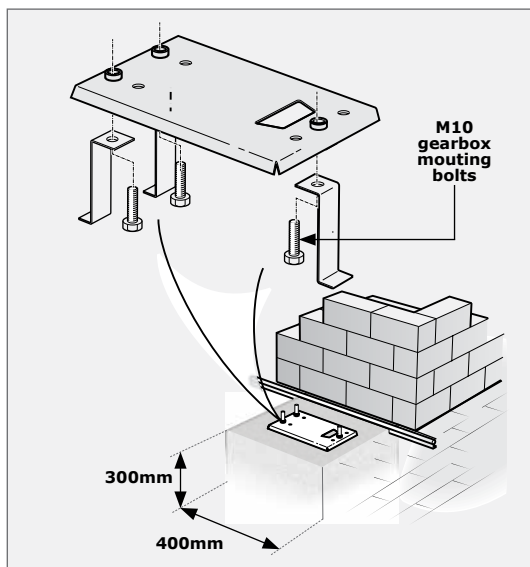
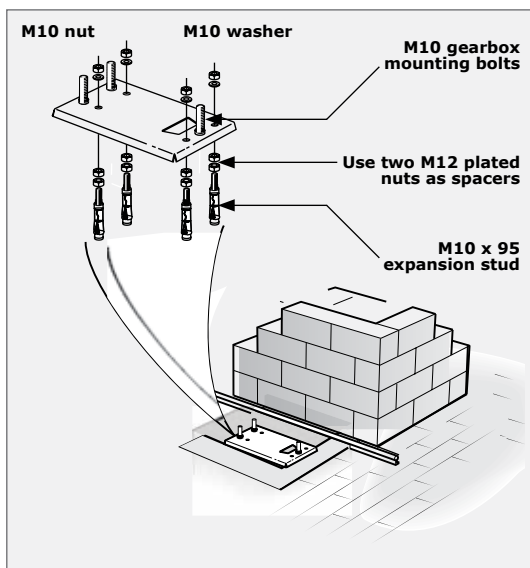

FIGURE 12
FIGURE 14
1. The foundation plate can either be set into a concrete foundation, as in Figure 12 or bolted down onto an existing concrete plinth as in Figure 14.
2. Make sure that all cables and conduits protrude at least 400mm above the baseplate once installed as shown in Figure 14.